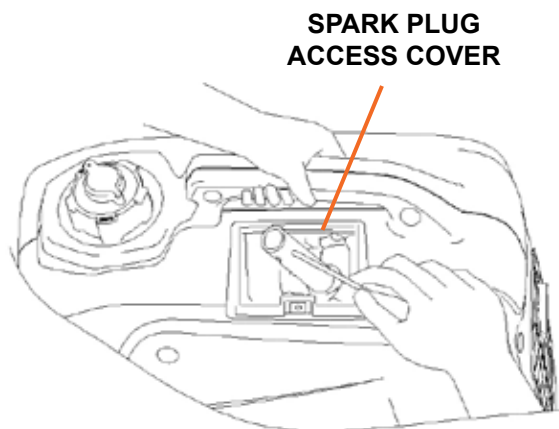

Figure 8
1. Remove screw from side of spark plug access cover (see Figure 8). Disconnect spark plug wire from end of plug. Clean out any debris from around the spark plug.